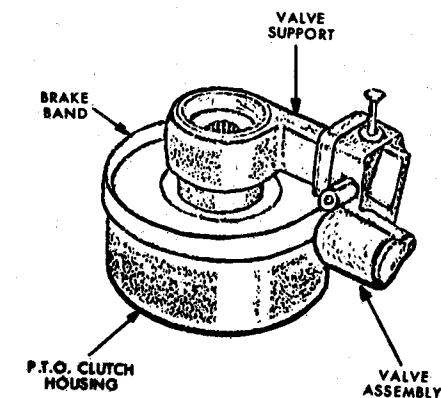

Fig. 195—After removing clutch assembly, lift off valve assembly with valve support and brake band.
223. OVERHAUL PTO CLUTCH AND VALVE ASSEMBLY (All Other Models). With pto clutch and valve assembly removed as outlined in paragraph 221, place unit on bench, front face down, and remove the brake band, valve support and valve assembly as a unit from the clutch housing as shown in Fig. 195. Withdraw control valve spool from valve body and remove the pin (11—Fig. 197) retaining band and lever (16) to valve body. Place valve body in a press and using suitable sleeve, compress guide (2) and spring (3) into valve body, then remove snap ring (1). Release spring pressure and remove the guide, spring and piston (5). Remove snap ring (6), flat washer (7), spring (8) and pto regulating valve (9) from bore in valve body.